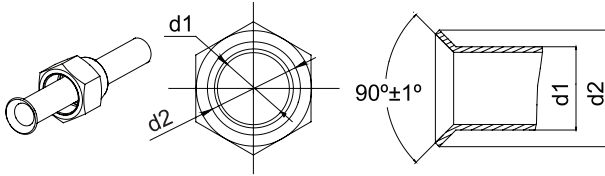

Fig. 4.9
- (1). Cut the connection pipe with the pipe cutter and remove the burrs.
- (2). Hold the pipe downward to prevent cuttings from entering the pipe.
- (3). Remove the flare nuts at the stop valve of the outdoor unit and inside the accessory bag of the indoor unit, then insert them on to the connection pipe, then, flare the connection pipe end with a flaring tool.
- (4). Check if the flare is spread evenly and there are no cracks (see Fig. 4.9).